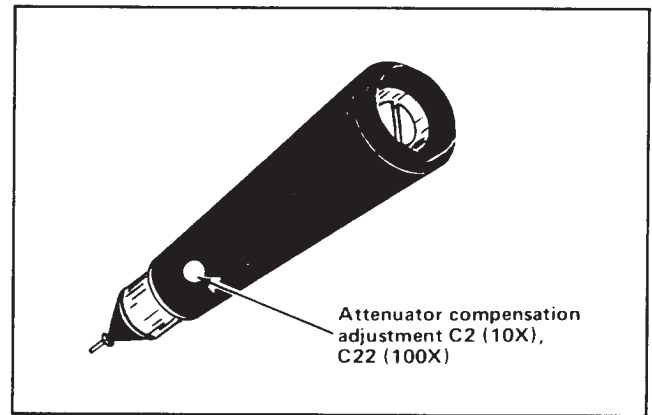

Fig. 5-7. Location of attenuator compensation adjustment.
f. ADJUST—C2 (10X) or C22 (100X), Attenuator Compensation, for a square leading corner on the display. See Fig. 5-7 for adjustment location.